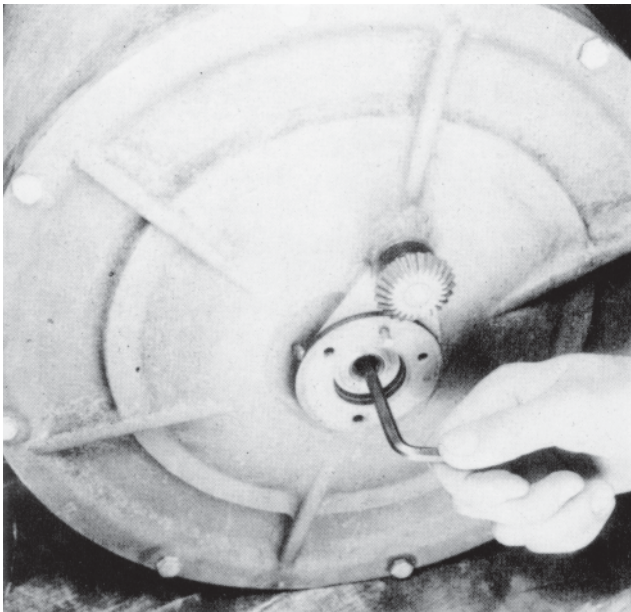

Figure 36 –Adjusting Rotor
3. Total end clearance (see Clearance Guide) is divided, end to end, by setting the rotor adjusting set screw, Figure 36.